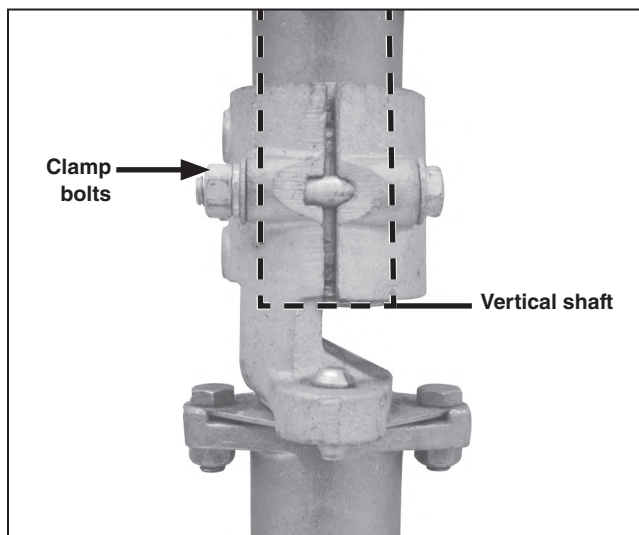

Figure 29. Insert the vertical shaft section between the couplings.
**STEP 6.** Loosely fit the vertical shaft between the two coupling assemblies. The vertical shaft should extend slightly past the flange end of the clamp. See Figure 29. If the shaft is too long for the installation, cut it to the appropriate length with a pipe cutter.